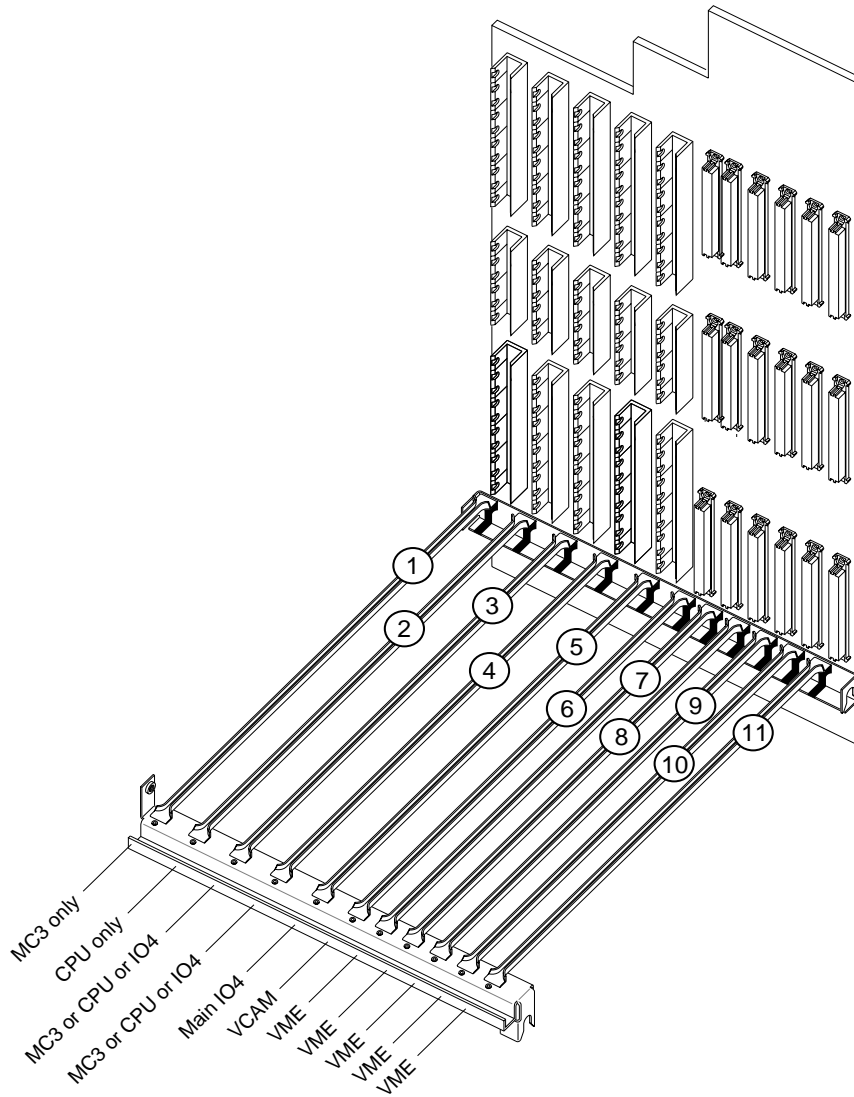
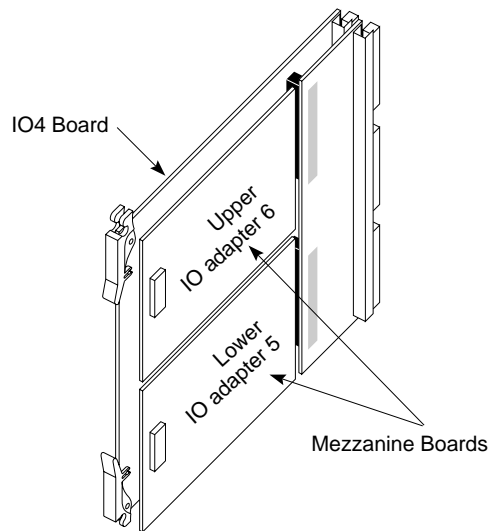

Figure 2-1 CHALLENGE Deskside Slots for IO4 Boards
Figure 2-2 Upper and Lower Mezzanine Slots on IO4 Boards
7. Open the front door and pull down the I/O panel in the front of the chassis to expose the IO4 boards, as illustrated in Figure 2-1.
Locate the IO4 boards that are currently installed. Slot 5 always has an IO4 board. (See Figure 2-1 for an illustration of the slots.) In addition, slots 3 and/or 4, may contain IO4 boards. A CHALLENGE L may have one to three IO4 boards installed. Each IO4 board has two mezzanine slots, as illustrated in Figure 2-2. The ATM board may be installed on any of the available mezzanine slots, as detailed below:
- If the system has only one IO4 board, this is the location for the IRIS ATM board. The ATM board may be installed in either the upper or lower position on the IO4 board, as illustrated in Figure 2-2.